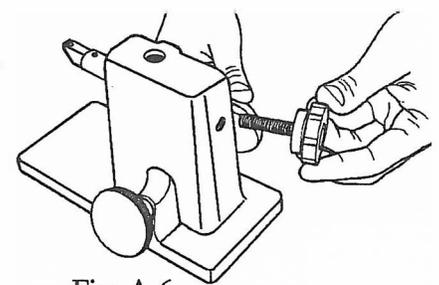

Fig. A-6
7. Attach the cutter adjusting knob (51), as shown in Fig. A-6. Adjust it until the knob touches the back of the cutter support.